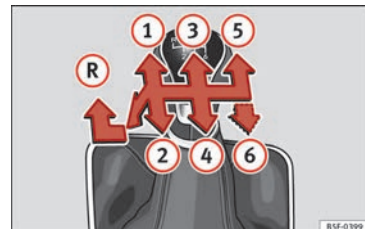

Fig. 48 Gear shift pattern of a 5 or 6-speed manual gearbox.
The position of the gears is indicated on the gearbox lever » **Fig. 48**.
- With the gearbox lever in neutral, push it downwards, move it to the left as far as it will go and then forwards to select reverse » **Fig. 48 (R)**.